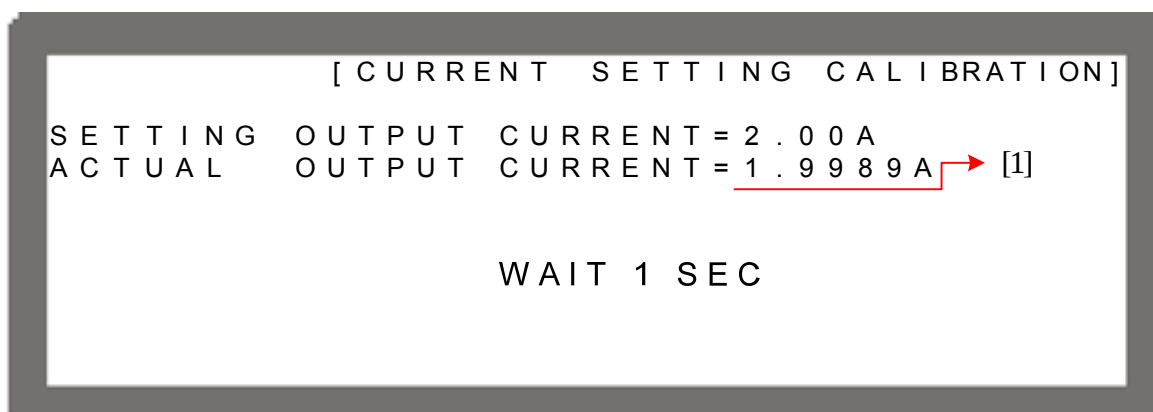

Figure 3-112
5. Press ENTER the system will set the output current to 2.00A automatically and appear second reading screen. Once the reading is done, the cursor will stop at position [1] as Figure 3-112 shows. Input the current (4 digits after decimal point) read by Current Shunt (DVM) and press "ENTER" to confirm.